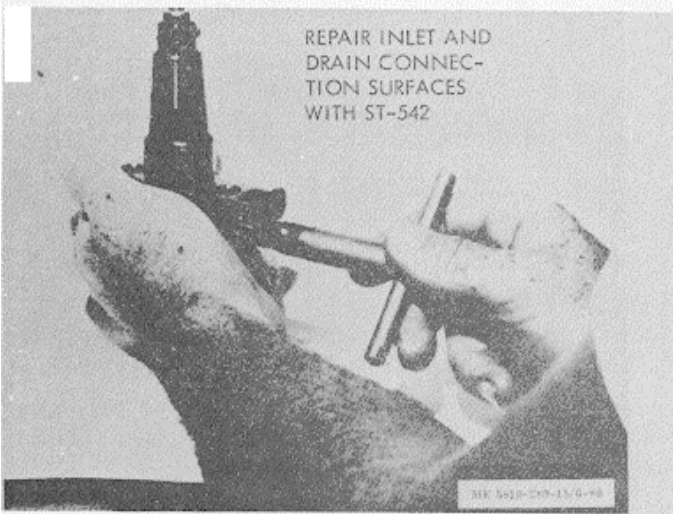

Figure 3-85. Repairing inlet and drain connection surfaces with ST-542.
e. Turn cutter until a good gasket seat is cut, figure 3-85.